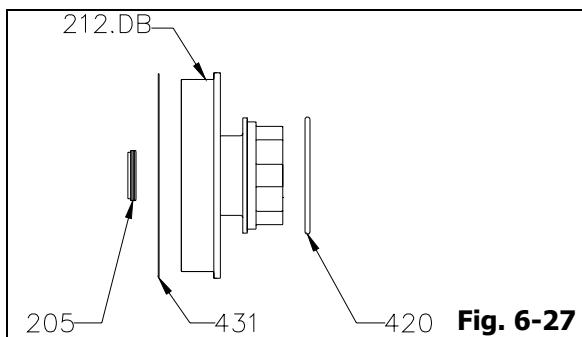

Fig. 6-27
- Remove stationary portion of atmospheric end mechanical seal (205) gently from stuffing box cover (212.DB) (Fig. 6-27).